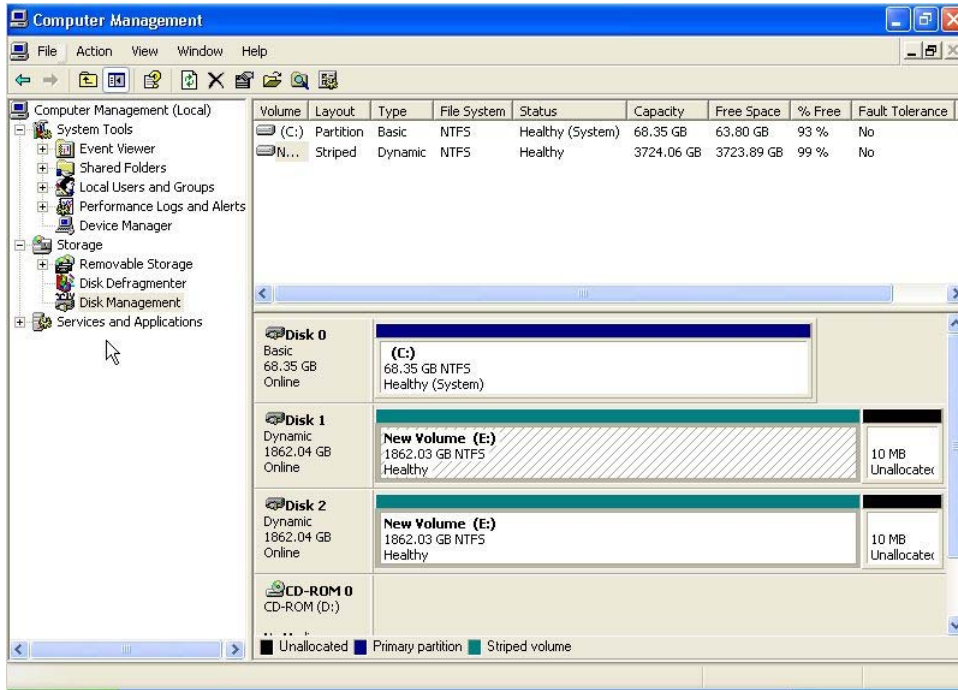

FIGURE 6-38. Computer Management Screen, Showing the Volume Name.
18. The *Computer Management* screen appears. Click **DISK MANAGEMENT** at the left side. The volume name, file system, and allocation unit size appear. See Figure 6-38.